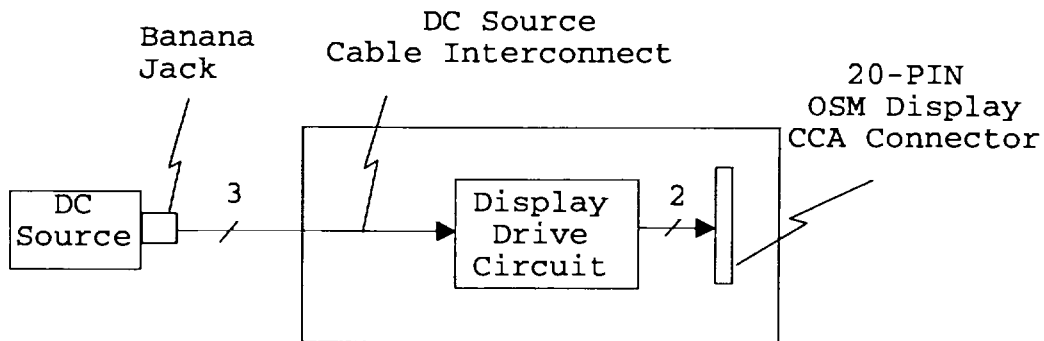

FIGURE 5-6. OSM Display Test Setup.
- Step 15. Connect DC power supply to OSM test fixture (refer to Fig. 5-6).